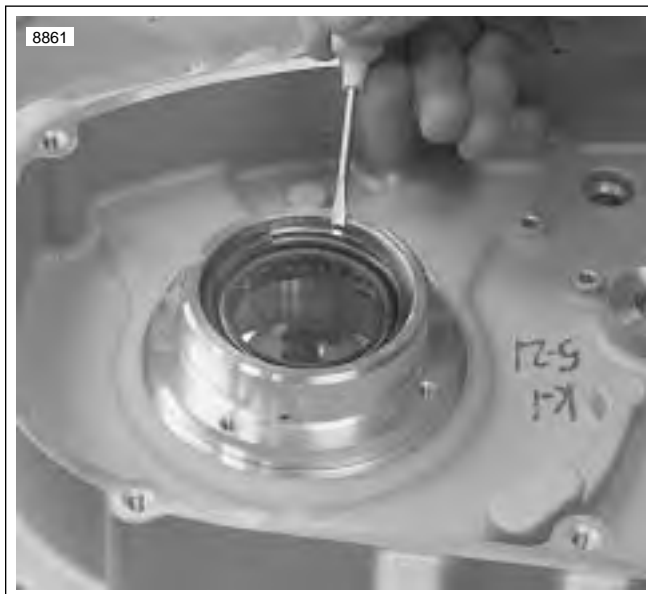

Figure 3-141. Sprocket Shaft Seal Retaining Ring
- See Figure 3-141. Remove sprocket shaft oil seal retaining ring.